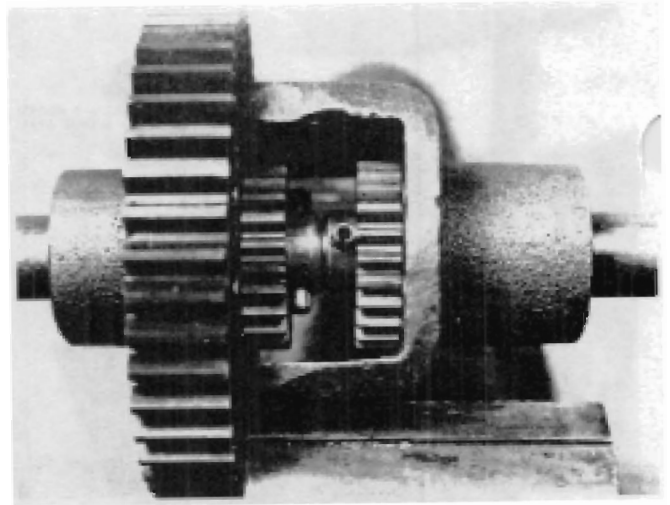

FIGURE 2
2. Drive the roll pins out of the axles and pull the axles from the axle gears. See Figure 2.